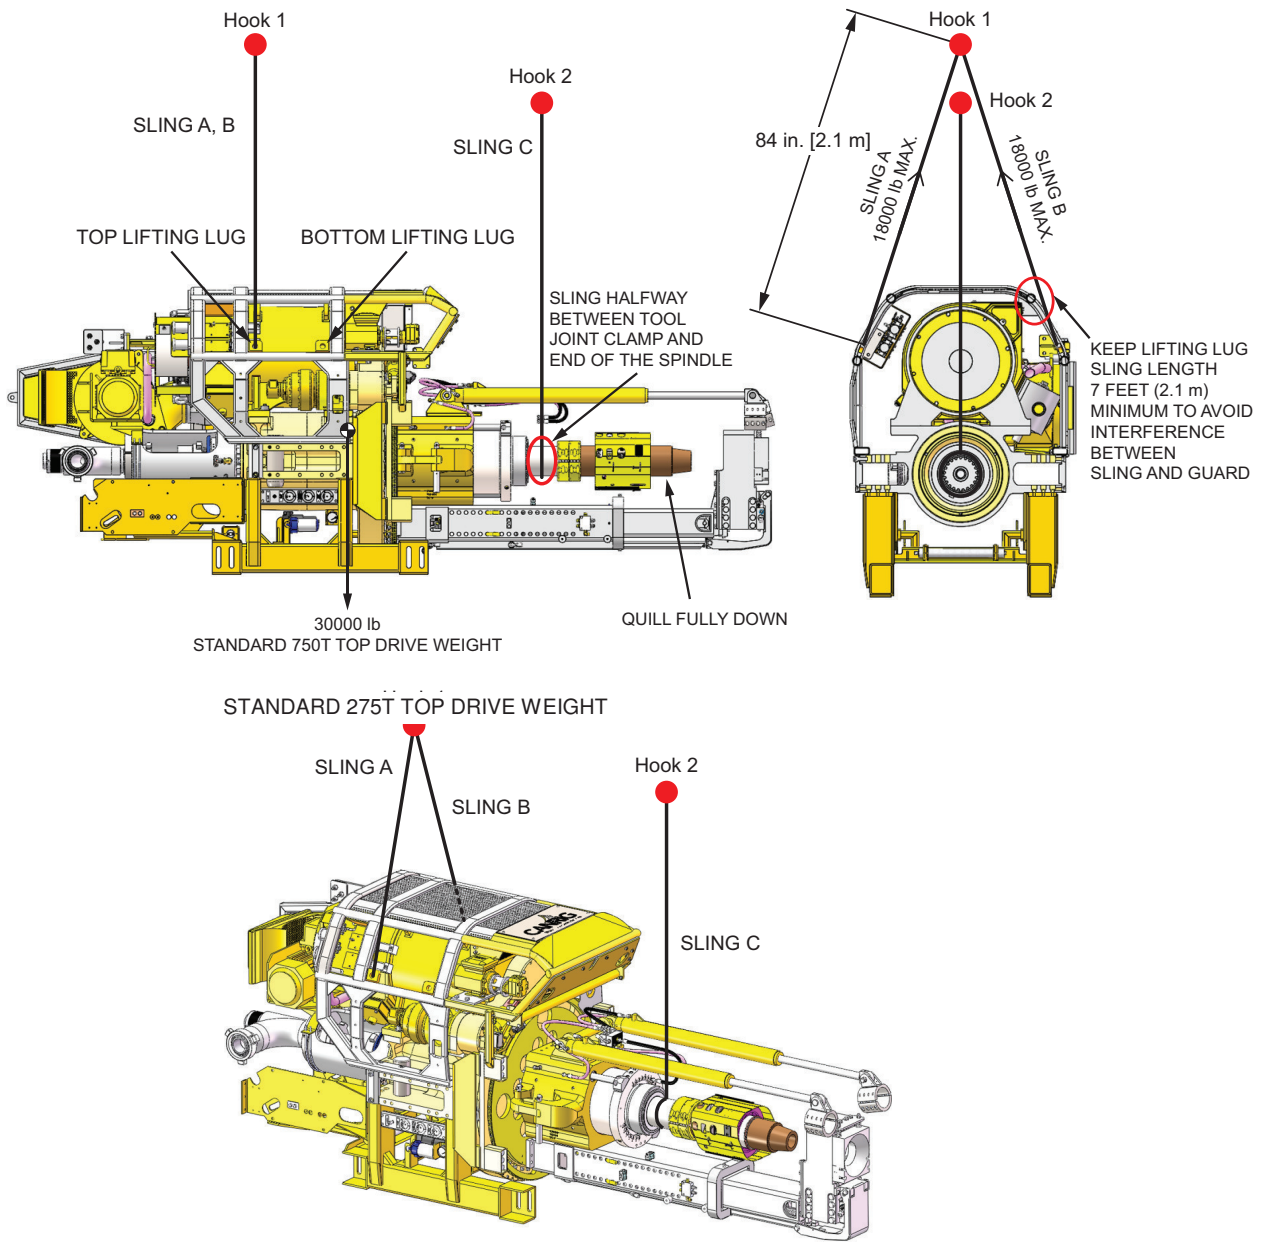

Figure 3B.4: Horizontal Lifting for Balanced Loads – Two Hooks (Top Lifting Lugs)
- Adjust the length or elevation of the strap on the quill (sling C) such that the top drive remains horizontal at all times while lifting. See Figure 3B.4.
This lifting configuration considers using two hooks to lift the top drive while it is horizontal. The first hook should align with the location of the top drive bottom lifting lugs (slings A and B) and the second hook (sling C) should align with the point on the quill halfway between the tool joint clamp and end of the spindle. See Figure 3B.5 for reference.